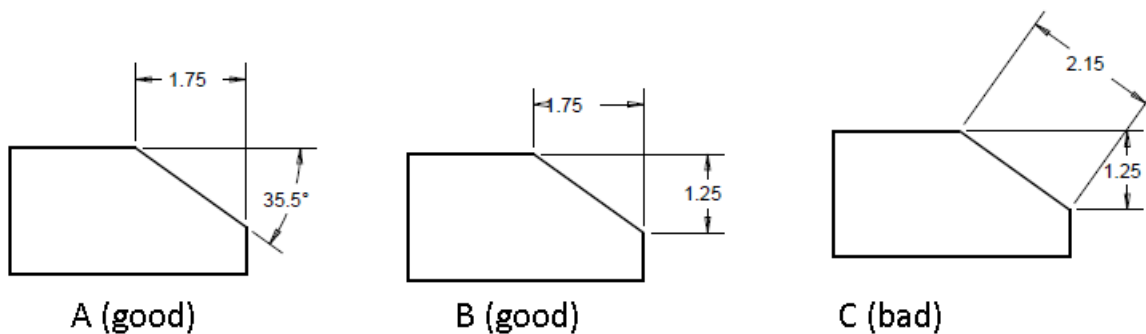

Figure 89
When dimensioning an angle, you have two primary methods to choose from. First you can give the angle and an edge length as shown in Figure 89 (A). Secondly you can dimension the two sides that would be the legs of a right triangle (Figure 89 (B)). What you ***do not want to do is*** dimension the length of the cut edge itself (Figure 89 (C)). This length is not used in making the angled feature, but is usually a by-product of making the angled feature, so would not be of any use to a technician making a piece.